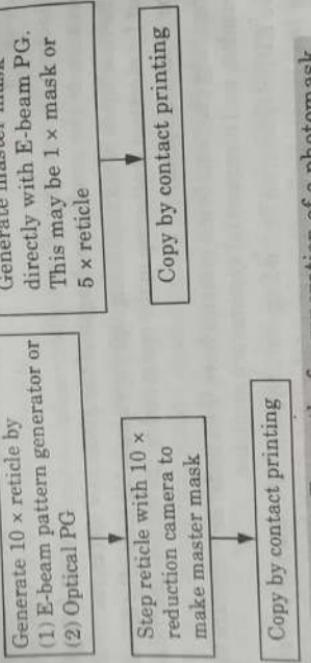

Fig. 3.6.1. Two paths for generation of a photomask.
2. Fig. 3.6.1 shows two methods of making a photomask. On the left a reticle is patterned with an optical pattern generator that is a machine which under computer control, exposes and places pattern elements to form the chip image at $10 \times$ scale and which can make 60 to 100 exposures per minute.
8. On the right, Fig. 3.6.1 shows the more efficient method of electron-beam patterning. The mask may be either a $1 \times$ mask or a $5 \times$ or $10 \times$ reticle for use in a wafer stepper.